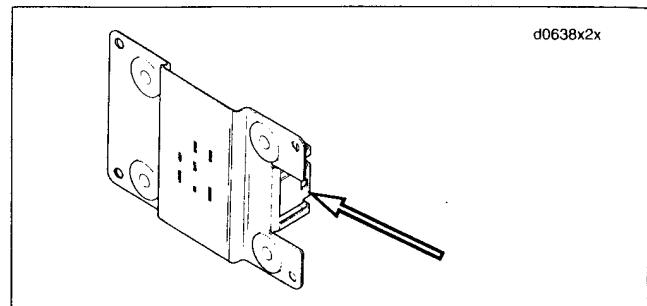

Figure 8-8. Top Plate Slotted Tab
4. See Figure 8-8. Slide slotted tab of top plate into panel adjacent to fuses.